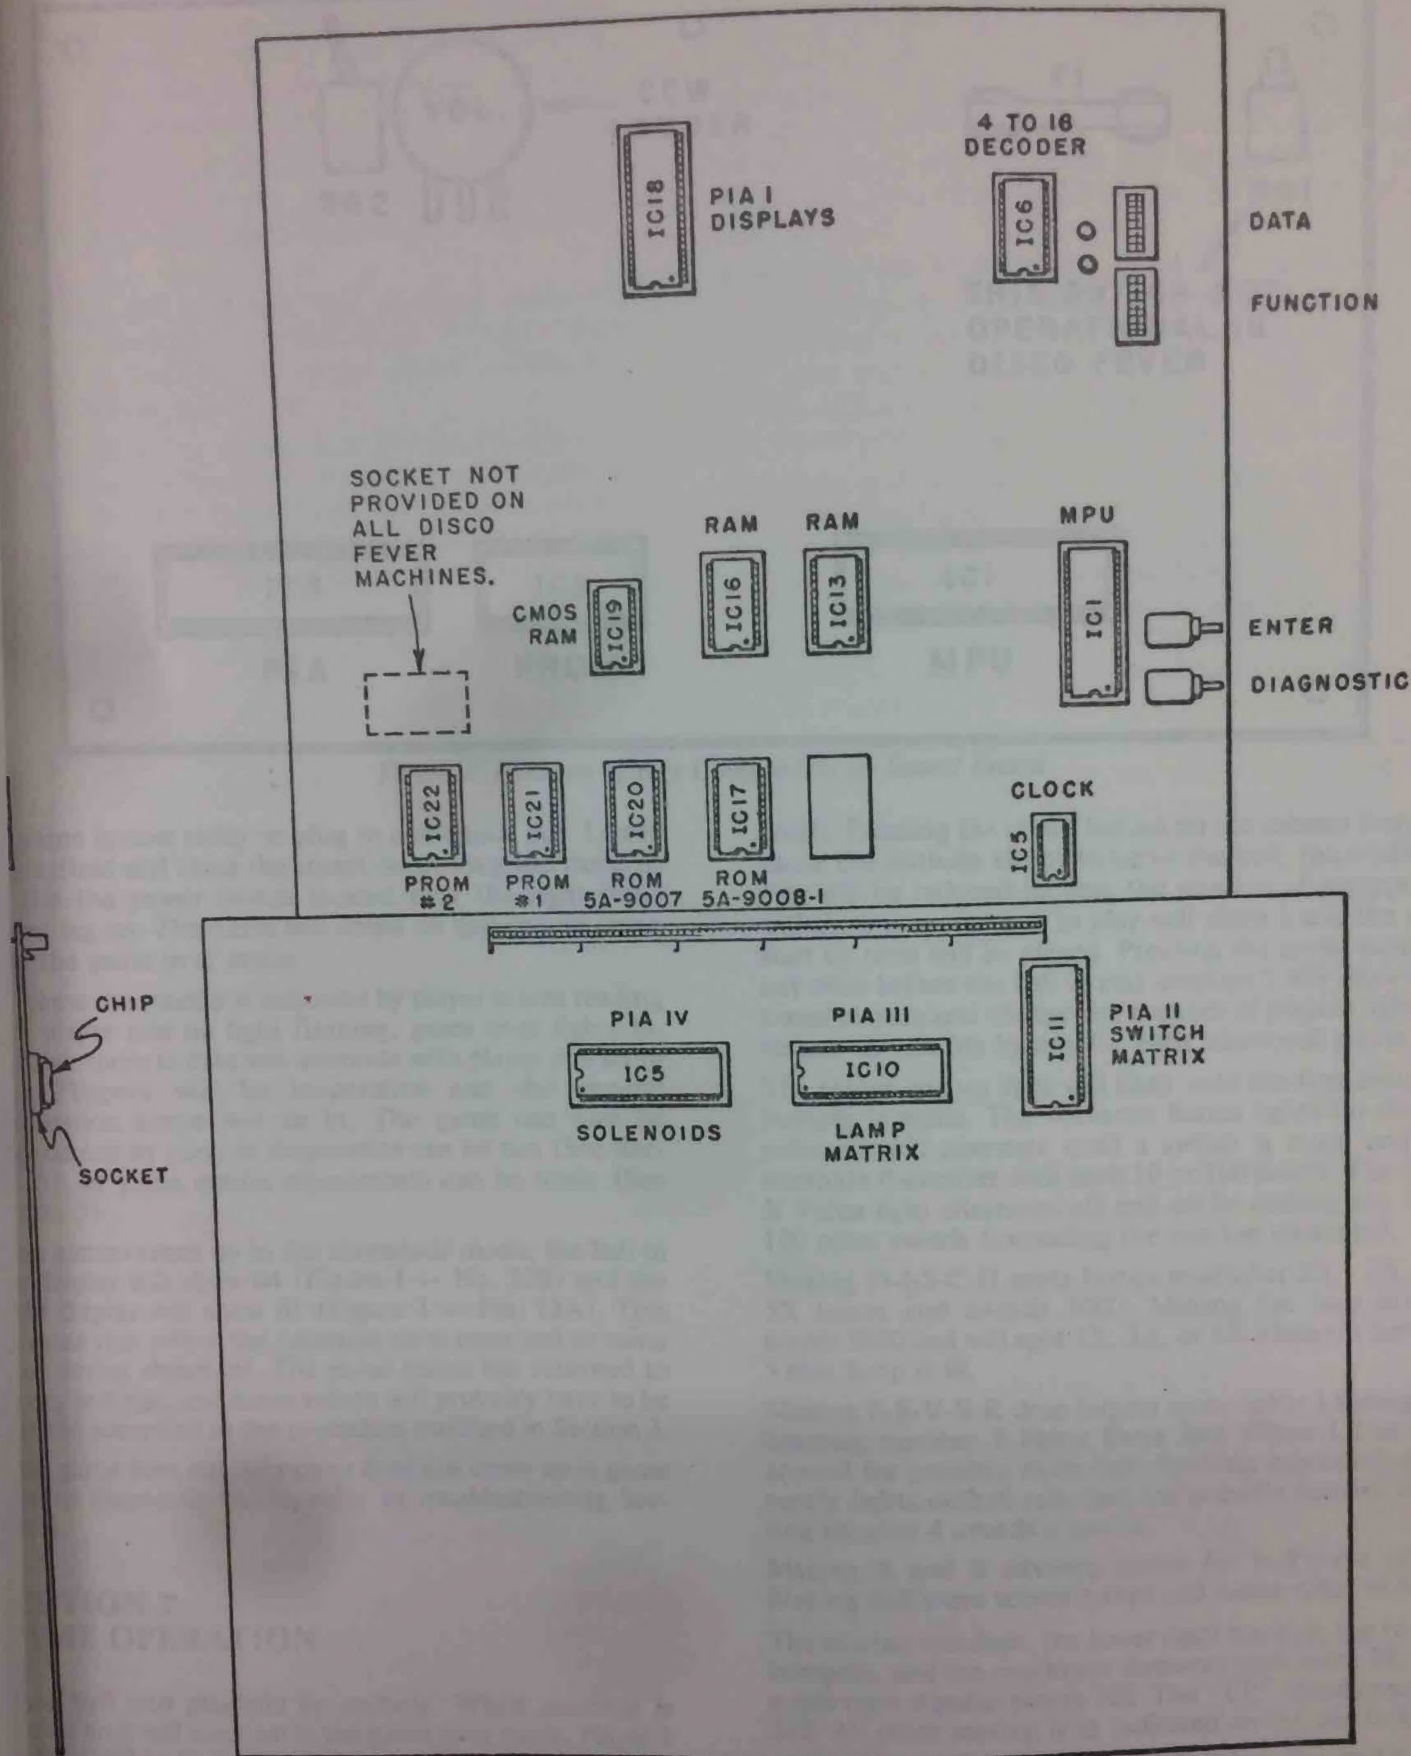

Figure 2. Location of Socketed Components and Switches on CPU and Driver Boards
After all the connectors have been checked as outlined above, gently press on the integrated circuit (IC) packages that are socketed on the CPU, Driver, and Sound Boards (Figures 2 and 3). **DO NOT** remove any of the IC packages from their sockets. Also check that the batteries are still securely mounted to the CPU Board. **DO NOT REMOVE THE BATTERIES!** If the batteries are removed with power off the game will go to factory settings for all the options and particular changes will have to be restored manually before the game can be put on location. The batteries are all installed with the positive (+) end up. Battery life is about the same as shelf life or about one year. When it is time to replace the batteries, remove the batteries while the game is ON or the game will go to default values.